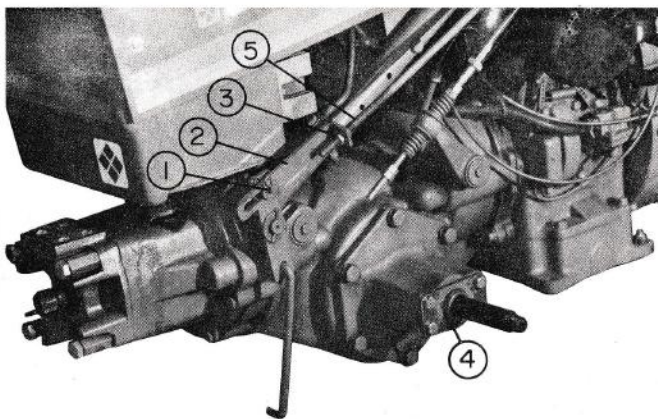

Fig. 14
9. Slide the adjustment bracket on the brake rod and thread two nuts, 3/8-16, on the brake rod. See fig. 14. Fasten the adjusting bracket to the pivot plate with a clevis pin and a flat washer on each side of the pivot plate. Secure the assembly with a cotter pin.